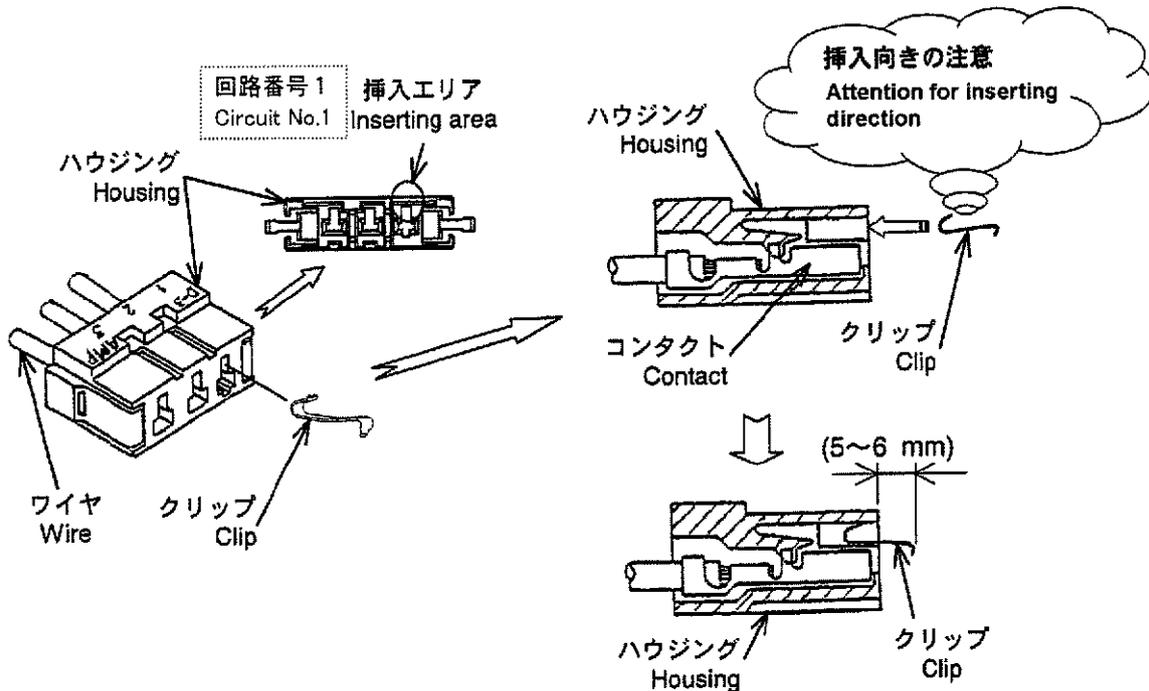

Fig.2
- (1) 片手でハウジングを保持しながら、他方の手でクリップをハウジングの回路番号1のところに仮挿入します。(Fig.2を参照)
- (1) Pre-insert a clip to circuit No.1 entrance of housing by a hand with keeping the housing on another hand. (Fig.2)
**NOTE** Keeping the housing so that a ‘AMP’ mark on it is in top direction. Make sure the inserting direction of the clip during inserting it. (Referring the inserting area shown as in Fig.2.) Also, do not pre-insert the clip too far into the housing during insertion. Please pre-insert the clip to the housing so that it is protruding about 5-6 mm from the end surface of the housing shown as in Fig.2.